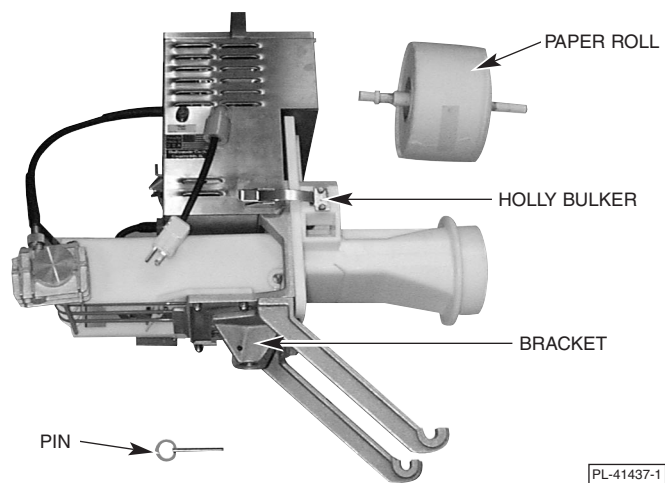

Fig. 1
1. Remove the paper roll from the Hollymatic Model 120. Pull the pin out of the bracket underneath the bulker. Remove the Bulker from its pedestal by lifting straight up. Carefully set the Hollymatic Model 120 Bulker on its side (Fig. 1).